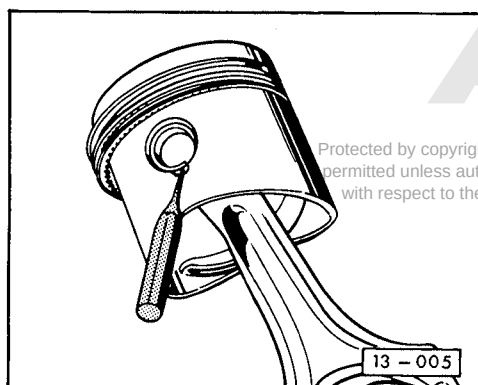

Fig. 5 Lever out circlip
- Mark cylinder number (A)
- Installation position: Markings (B) point towards pulley end
- Lever out - Fig. 5